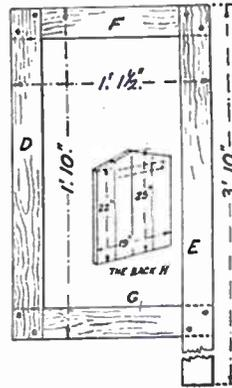

Fig. 4
Fig. 5. The back (H) and the floor (I) consist of 3/4in. tongued and grooved boards, the latter having the joints running from side to side, while the backboards run upwards according to the dimensions in the diagram of the back in Fig. 4. It must be noted that the